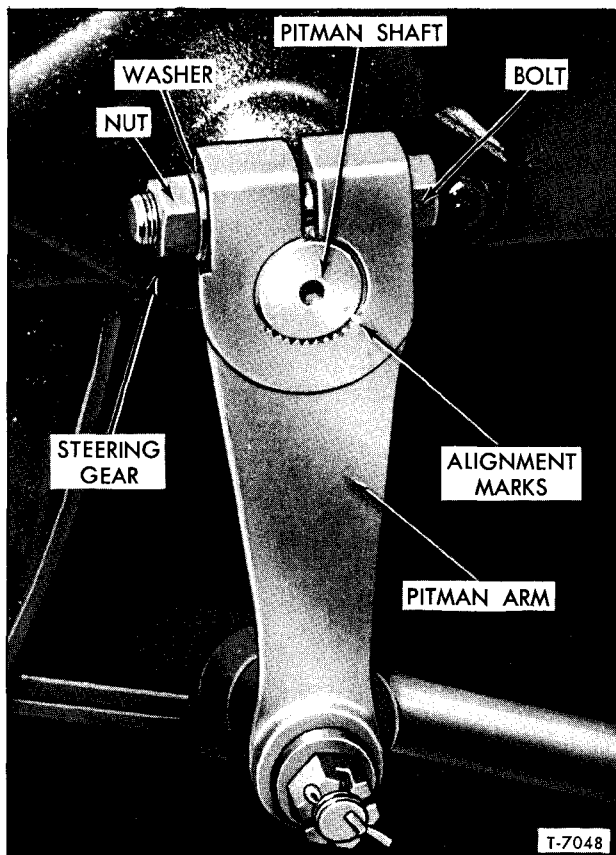

Figure 26—Pitman Arm Installed (Conventional Cab Models)
4. On conventional cab models which have Pitman arm retained with a clamp bolt, nut, and special hardened washer, scribe an alignment mark across Pitman arm and shaft (fig. 26). Remove Pitman arm.